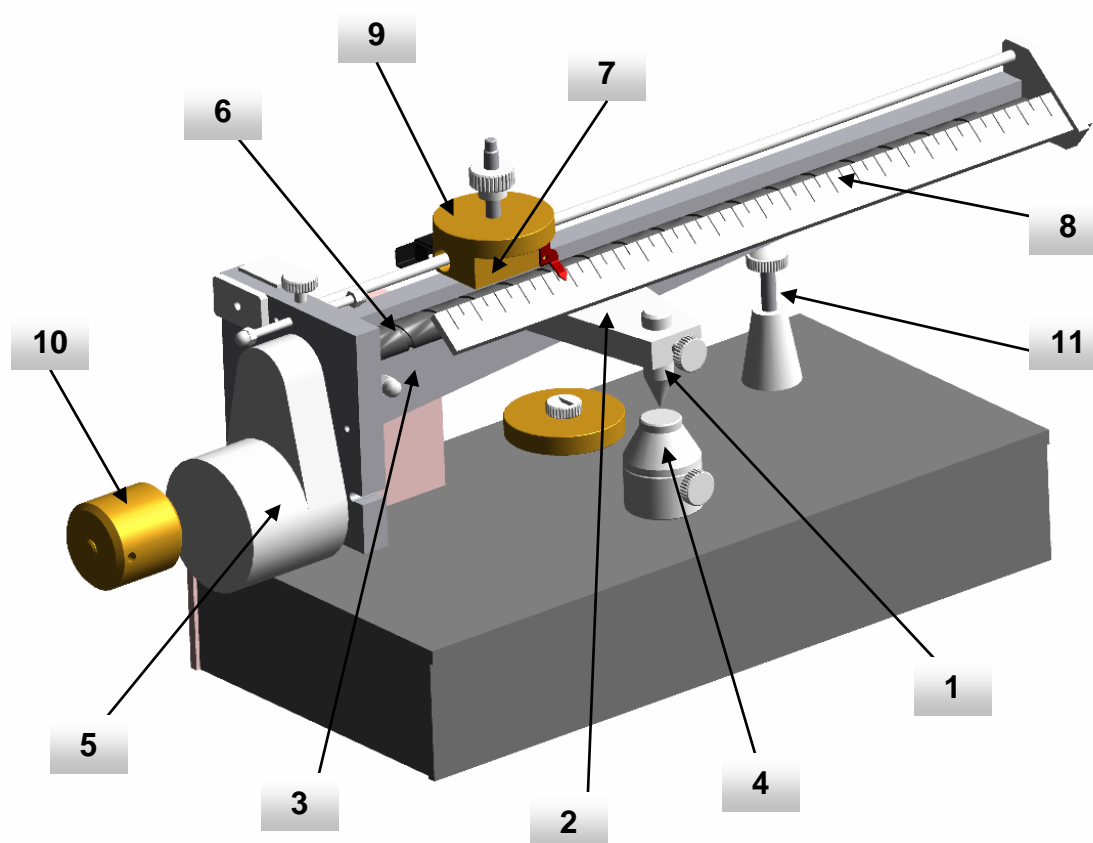

Figure 1, "Front View"
| Figure 1, "Front View"..... | 2 |
The pusher (1), see figure 1 & 2, is mounted on a bracket (2) fixed to an arm (3), which pivots on a fulcrum.